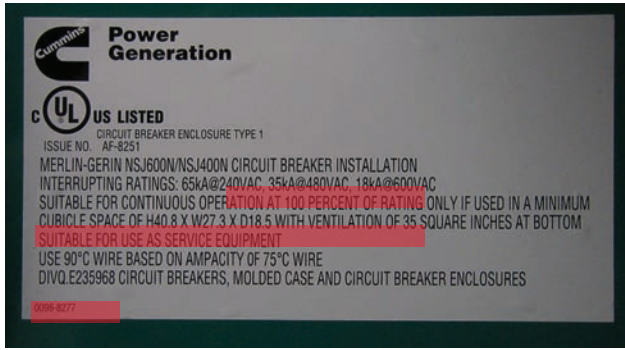
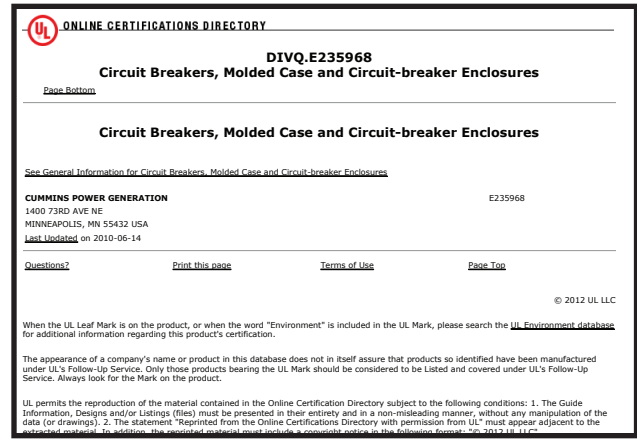

Figure 1.1: UL label of a Cummins 100% rated breaker assembly. This label is typically located inside the enclosure.
Figure 1.2: UL online certification of Cummins 100% rated breaker assembly.
Notice that in Figure 1.1 the circuit breaker model is called out without specific requirements for it to be a 100% rated breaker. The breaker for this assembly can be a breaker with model number that starts with NSJ600N or NSJ400N as marked on the label. UL certifies that this assembly is suitable for 100% rating with the minimum cubicle space and ventilation space. UL also requires the cables to be 90° C wires per NEC but based on 75° C ampacity cables. This is a requirement on all 100% rated circuit breaker assemblies. This means one must calculate the 75° C wires for the required ampacity and then use 90° C rated cables for the same circular mils. For example, if a 400A 100% rated breaker is used, table 310.15(B)(16) section for copper cable in NEC suggests the use of one 600 MCM copper cable at 75°C temperature rating. According to the label in figure 1.1, one would have to use a 600 MCM copper cable at 90°C to be used with the 400A 100% rated circuit breaker assembly. This is required due to the higher temperature rise the circuit breaker will encounter due to the continuous loads. Oversized cable allows the heat in the circuit breaker and lugs to be transferred more efficiently and thereby reducing the chance of overheating. For breakers, over heating is undesirable since that may cause breaker to trip unexpectedly.
NRTLs also require follow up testing to ensure quality of the 100% rated assemblies. In Figure 1.1, the last line calls out the file number DIVQ.E235968. This file number is only applicable to this 100% breaker assembly by Cummins Power Generation and can be verified online. In the NRTLs certification website, input company name 'Cummins' and category code 'DIVQ'. The resulting certification is shown below in Figure 1.2. Inspectors can verify protection in this method.